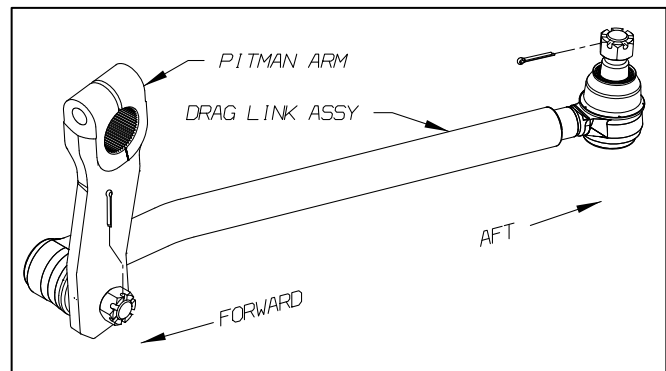

Fig. 1
2. Remove cotter pin from ball stud on forward (pitman arm) end of drag link. (Fig. 1)
5. Remove cotter pin from ball stud on aft (steer arm) end of drag link. (Fig. 1)